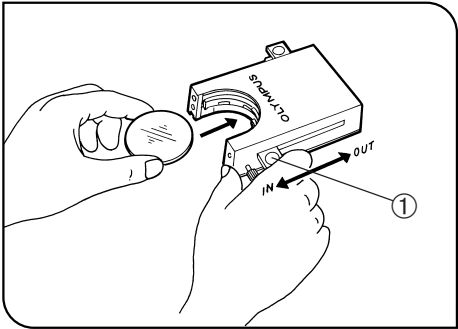

Fig. 7
**Using the Filter Cassette (Figs. 7 - 10)**
- 2. Slide lever ① to the IN position. Make sure that it clicks securely into place. (Fig. 7)
- 3. Holding the lever in the position shown in Fig. 7, put the filter into the cassette by inserting it in the direction indicated by the arrow.